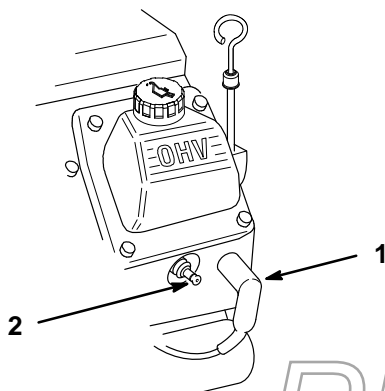

Figure 14
2. Pull the wire(s) off the spark plug(s) (Fig. 14). Now clean around the spark plug(s) to prevent dirt from falling into the engine and potentially causing damage.
3. Push the wire(s) onto the spark plug(s) (Fig. 14).